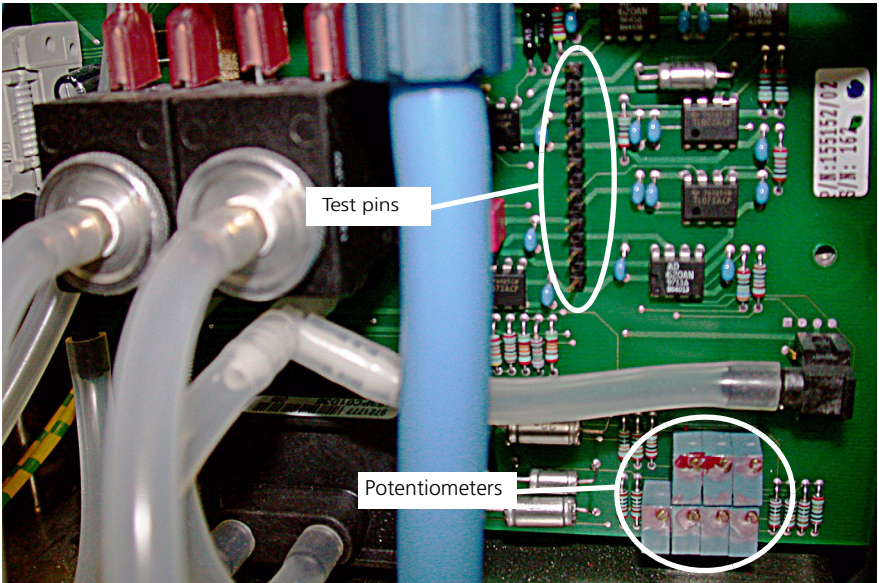
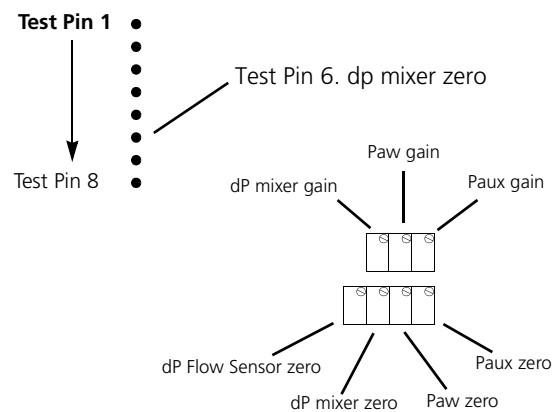

Figure 9-14. Location of the potentiometers and test pins on the sensor board
Figure 9-15. Identification of the potentiometers and test pins on the sensor board
- The sensor board. This is located under the mixer, as shown on Figure 9-14. The test pins and potentiometers are identified on Figure 9-15.
1. Attach your volt meter to Test Pin 1 (ground) and Test Pin 6 on the sensor board. (Figure 9-14 and Figure 9-15 on page 9-30.)
2. Adjust potentiometer *dP mixer zero* (Figure 9-15 on page 9-30) until the volt meter reads 0 ± 5 mV.